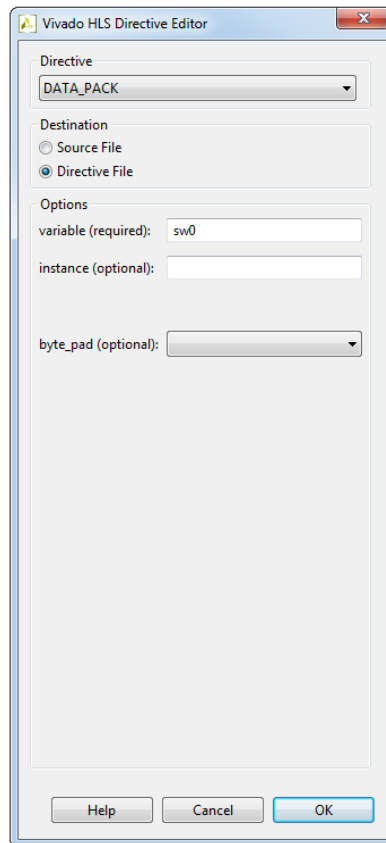

Figure 2.40: Vivado HLS Directives Editor dialog box
2. In the **Vivado HLS Directives Editor** dialog box click on the **Directive** drop-down menu and select the appropriate directive, see Figure 2.40.